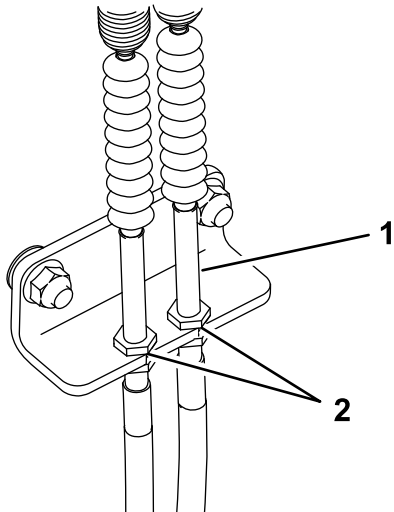

Figure 44
2. Inside the left side of the control tower, adjust the nuts until the cables are taught (Figure 44).